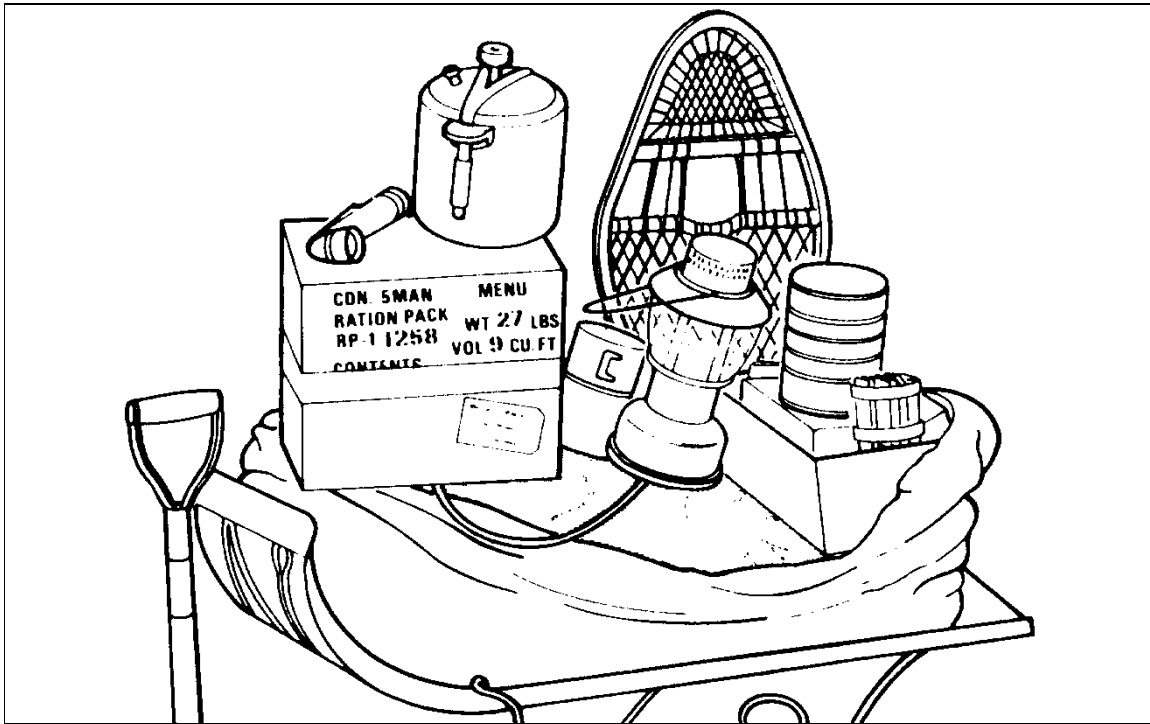

Figure 2-9 One-Man Toboggan Before Lashing
- a. The one-man toboggan weighs approximately 10 pounds and has a load capacity of 100 pounds. It has two runners and six "D" rings on the upper edge, three on each side. There is a white nylon cover in which to pack the load. The towing harness consists of a short web waist-band, at each end of which are metal rings. Attached to each metal ring is approximately eight feet of towing cord (see Figures 2-9 and 2-9A).